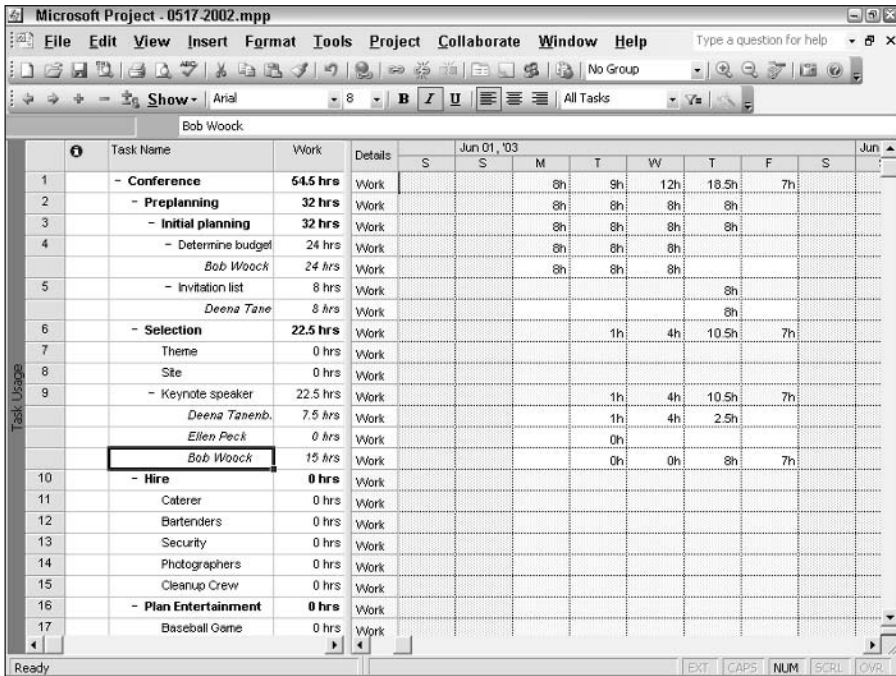

Figure 5-21: The Task Usage view shows you the amount of time that a resource is assigned to a particular task.
2. Choose View⇨Task Usage or use the View bar to switch to the Task Usage view, as shown in Figure 5-21.